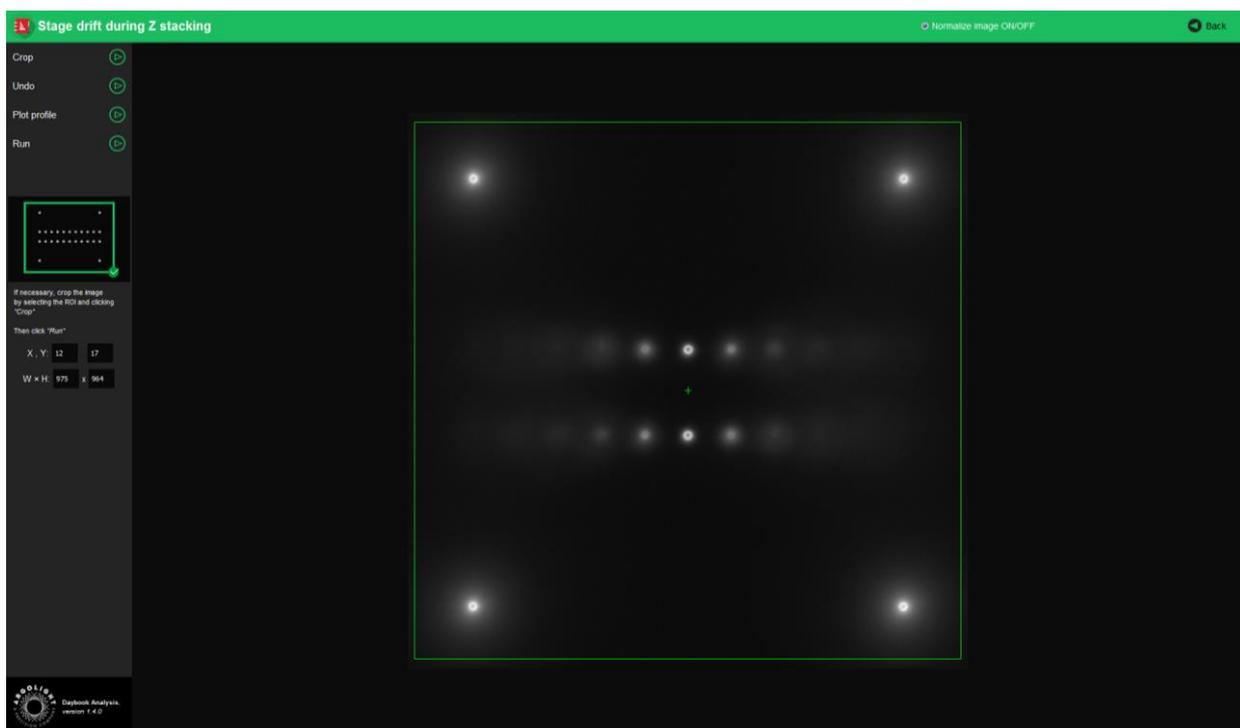

Figure 2: Crop window.
- If needed, select a region of interest (ROI) and click on “Crop” to crop the image (cf. Figure 2).